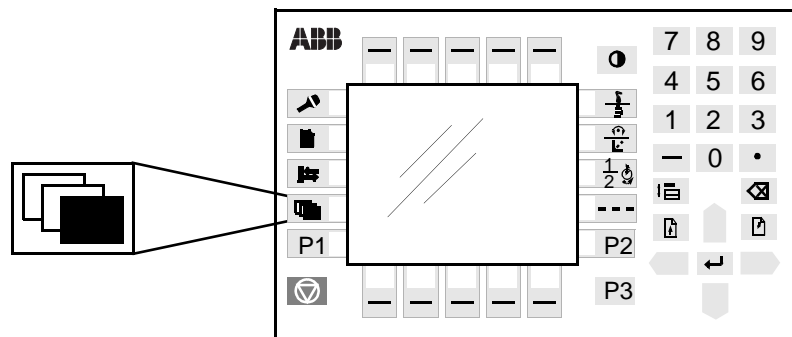

Figure 33 The Misc. window key from which the Service window can be selected
1. Press the **Misc.** window key (see Figure 33).